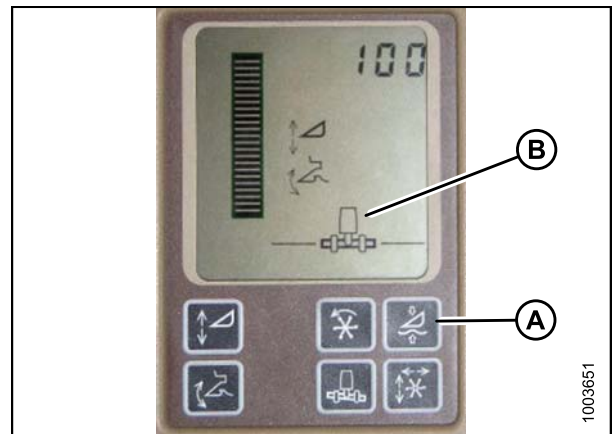

Figure 3.268: John Deere Combine Display
Do **NOT** use the active header float function (A) in combination with the MacDon auto header height control (AHHC)—the two systems will counteract one another. The header symbol (B) on the display should NOT have a wavy line under it and should appear exactly as shown on the Active Header Control Display in Figure 3.268: *John Deere Combine Display*, page 171.